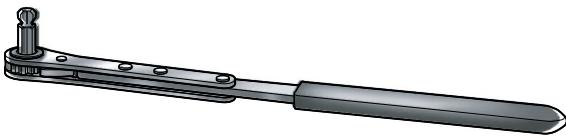

Figure 4-27. Intake Manifold Wrench (HD-47250)
7. Remove right side socket screws from front and rear cylinder head flange adapters. For best results, use the INTAKE MANIFOLD WRENCH (Part No. HD-47250). See Figure 4-27.